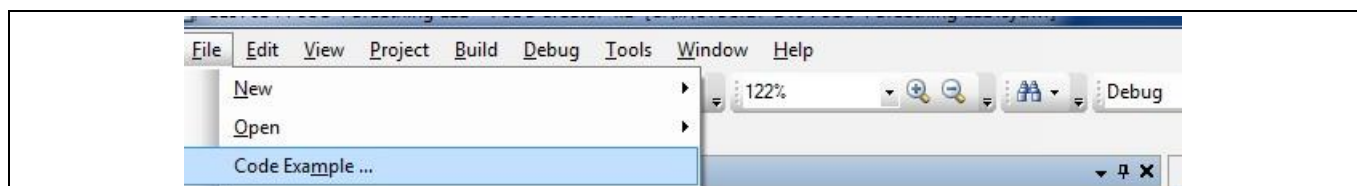

Figure 19 PSoC Creator Find Code Example
2. On the Start Page, click **Find Code Example...** under **Start**, or use the menu item "**File > Code Example...**" as shown in **Figure 19**.